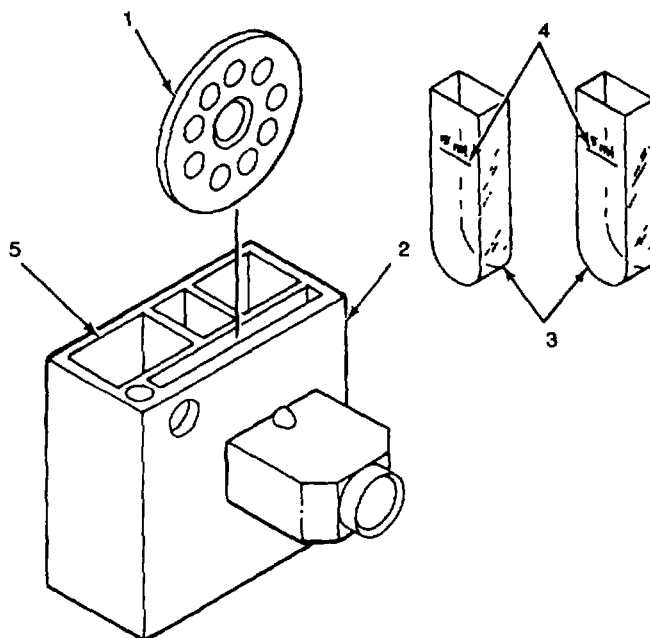

Figure 2-31. Chloride pH Test
- (6) Collect just enough water to cover the bottom of the second cell (4).
- (7) Add two DPD No. 1 tablets and crush with the plastic rod (5).
- (8) Fill this cell to the mark (6) with the water under test and insert it in the left hand cell space (7) of the comparator (3). Compare with the color standards of the appropriate disc as rapidly as possible. Record the result which is the closest match as the value of the free residual chlorine level of the test sample. Interpolation between two values may be necessary.
- d. Perform chloride pH test as follows (Figure 2-31):
- (5) Add the indicator solution to the cell in the LEFT (5, Figure 2-31) opening only. (Water sample without indicator solution in right opening compensates for color and turbidity.)
- (6) Hold the comparator (2) to your eye and face a good light source (daylight but not the direct rays of the sun or artificial light reflected from a white surface). Be sure your fingers do not cover the light window in the back of the comparator. Rotate the pH color disc until a color on the disc matches the color of the cell in the left opening. The readings can be made directly from the round window in the front of the comparator. The value is expressed as the pH number.
- (7) If the color of the cell in the left opening is between two colors on the pH color disc, the value must be estimated.
- (8) In making the pH test, be careful to avoid touching the sample or the cell with the dropper. Never place the pH dropper on a laboratory bench or other surface because the adherence of the slightest amount of acid or alkali to it will produce erroneous results.
- (9) When test has been completed, empty the samples and wash the cells with clean water.